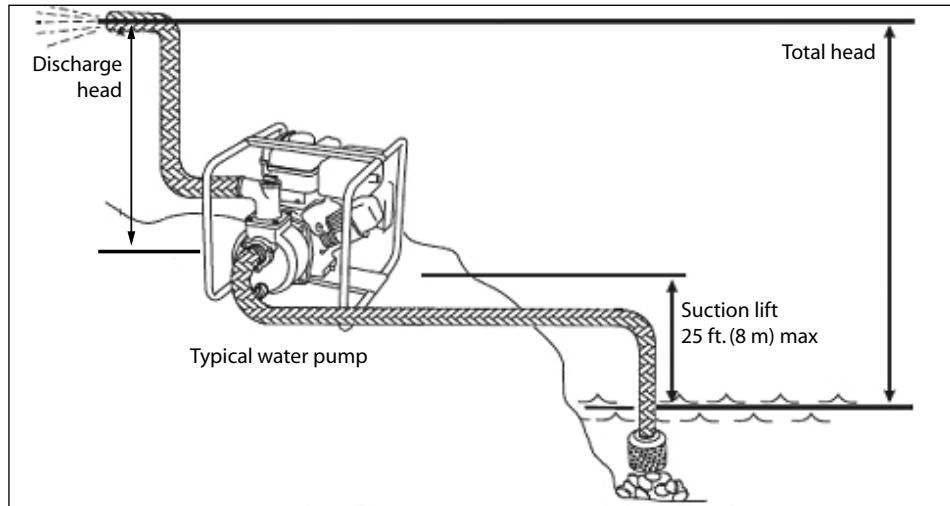

FIGURE 1
Use this pump for water only, where the vertical suction lift from the water level is 25 ft. (8m) or less. Head refers to the height of a column of water that can be delivered by the discharge of the pump (Figure 1). Suction lift is the vertical distance between the center of the pump and the surface of the liquid on the suction side of the pump. Discharge head is the vertical distance between the pump's discharge port and the point of discharge. Total head is the sum of the suction head and
- a) **LOCATION:** For permanent installation, put the pump in a clean, dry, and ventilated place (Figure 1). **Keep the suction line as short as possible.** This will allow the pump to operate at maximum performance and ensure that the casing does not overheat due to the absence of water.